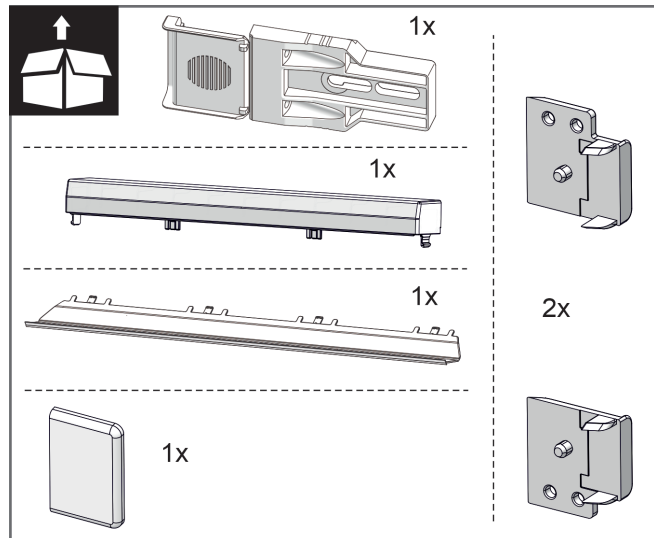
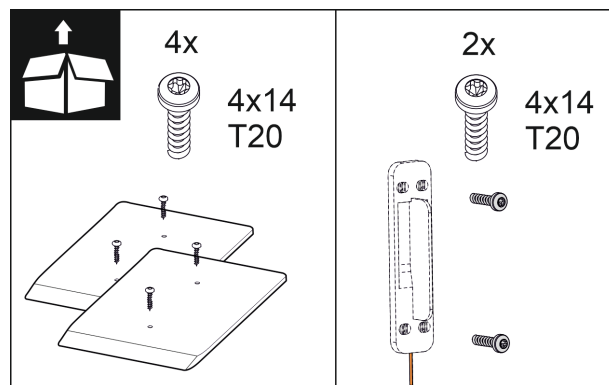

Fig. 10
Fig. 16
Assembly parts in the accessory kit Fig. 10 () to Fig. 16 ()
2. Check the assembly parts in the accessory kit. *Fig. 10 ()*
to *Fig. 16 ()*